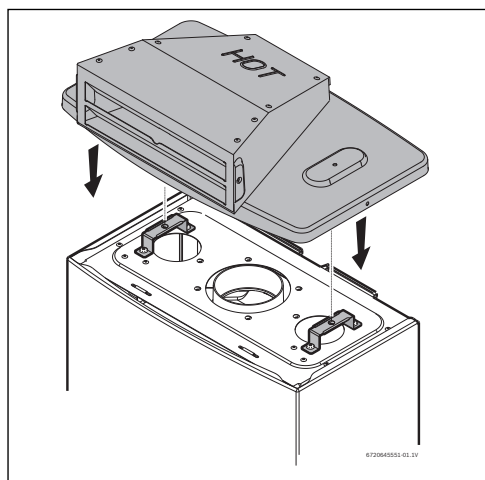

Fig. 14
- ▶ Position the outdoor vent cap on the top of the appliance, as shown in Fig. 14.